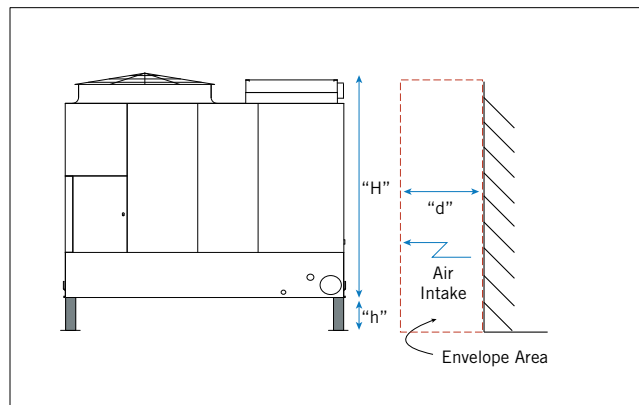

Figure 2b. Section View of Unit Adjacent to Wall
**NOTE:** Refer to **Figure 2b** on **Page 3** for location of “d” and “h”.